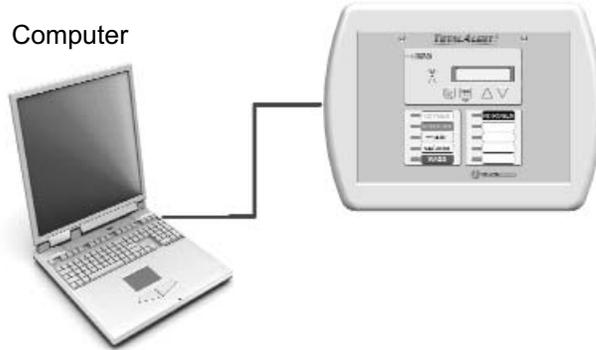

Figure 52 Direct Connection
- 1b. For direct connection to a PC without using a hub or switch, connect the device to the PC using a Cat-5 Ethernet crossover cable (Figure 52).